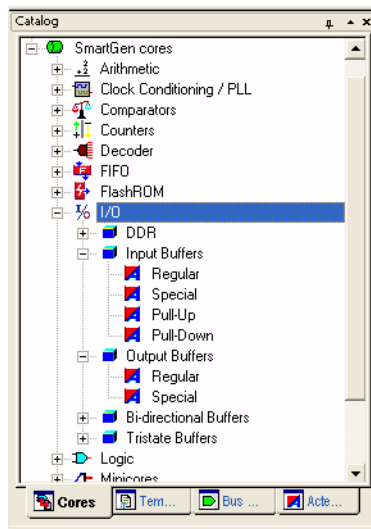

Figure 8-3 • Expanded I/O Section
- Expand the I/O section and double-click one of the options (Figure 8-3).